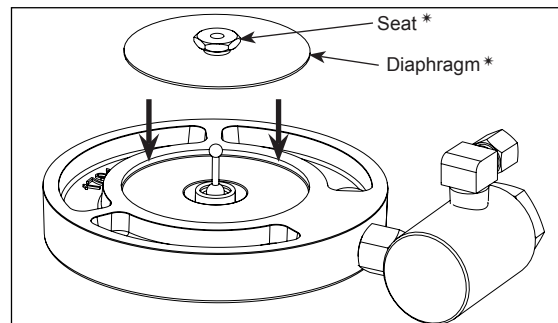

Fig. 15-6
**DO NOT** shear the Diaphragm with the Pilot Seat threads. See Fig. 15-6